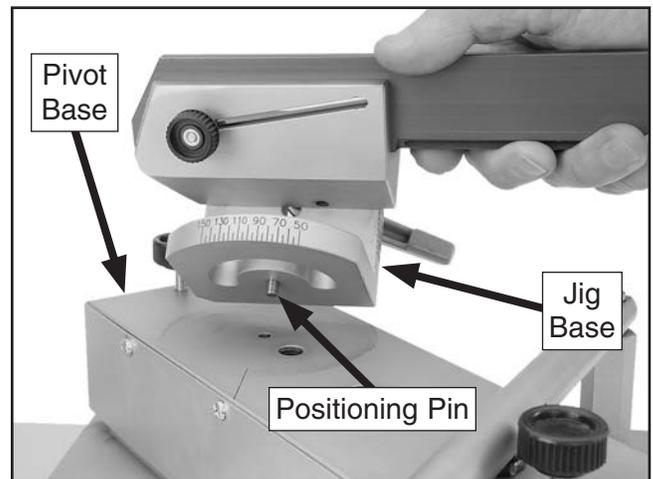

Figure 10. Aligning the jig positioning pin over the mounting hole in the pivot base.
4. Apply a thin coat of light machine oil to the positioning pin and between the pivot and jig base for smooth rotation of the jig assembly (see **Figure 10**).
- Align the positioning pin of the jig with the hole in the pivot base, as shown in **Figure 10**, then insert the pin and lay the jig base flat on the pivot base.